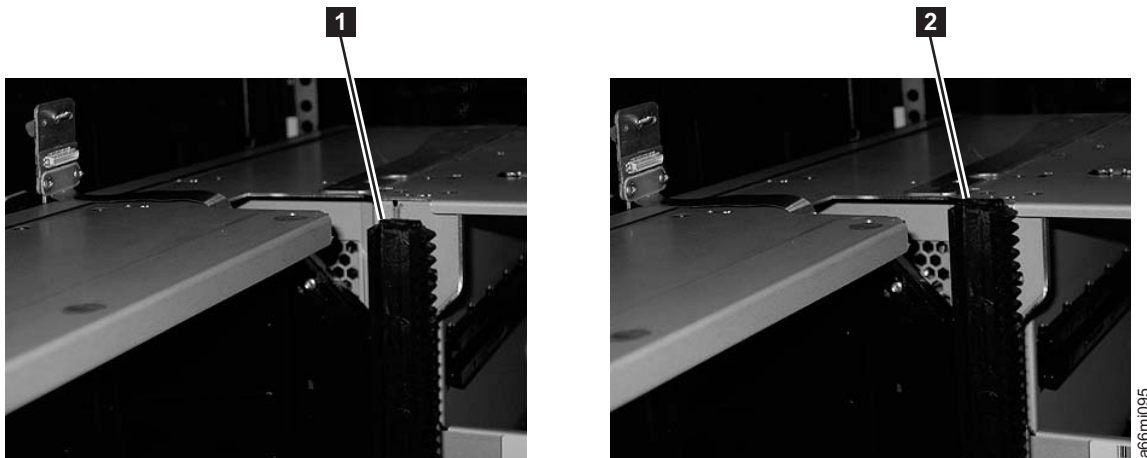

Figure 3-18. Gear racks positions (rear gear racks shown)
5. Ensure that the front and rear gear racks of both the control module and the expansion module are locked in the upper position (see **2** in Figure 3-18 on page 3-20).
1. For all configurations, ensure that the front and rear gear racks are locked in the upper position. See **2** in Figure 3-18.
2. **IMPORTANT:** Ensure that the front and rear gear racks are locked in the upper position (see **2** in Figure 3-18 on page 3-20).
13. **IMPORTANT:** Lower the gear racks into the down (operating) position. See **1** in Figure 3-18 on page 3-20.
1. **IMPORTANT:** Ensure that the front and rear gear racks are in the down (operating) position (see **1** in Figure 3-18 on page 3-20).